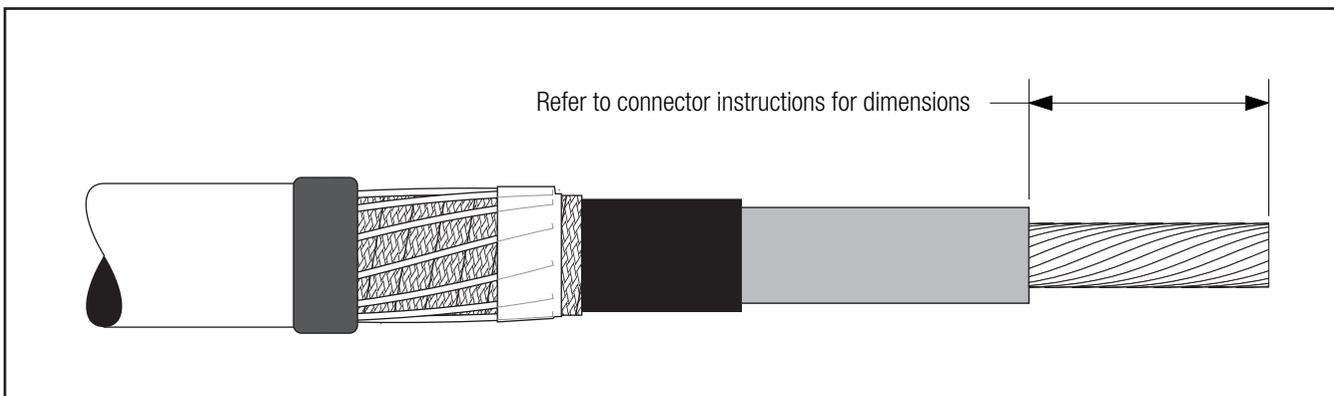

Figure 7
- 3.1 If using a 3M Shearbolt Connector QCI 500-1000, refer to the instructions included with the connector for insulation cut-back dimension. Insulation removal length shall not exceed 3 3/4" (95 mm) from conductor end (*Figure 7*).